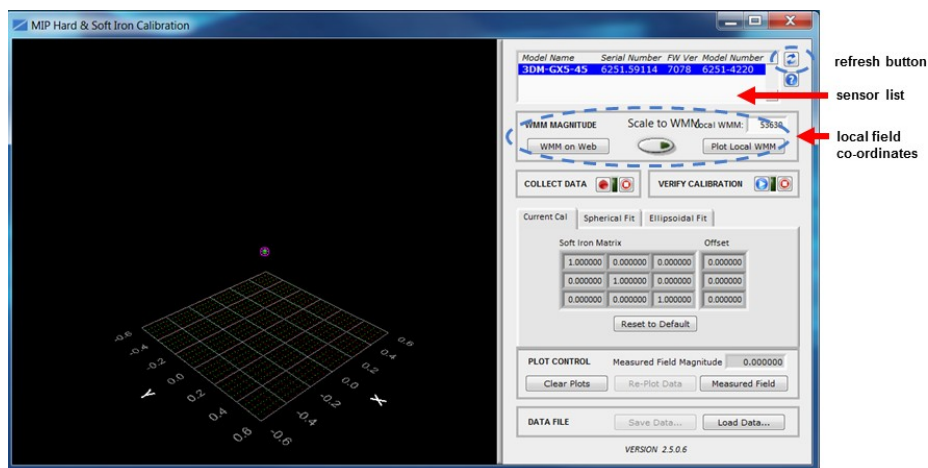

Figure 26 -Sensor Menu
- 3 The sensor should automatically appear in the sensor list. If not, use the Refresh button to query it and then select the sensor (*Figure 26 - Sensor Menu*).